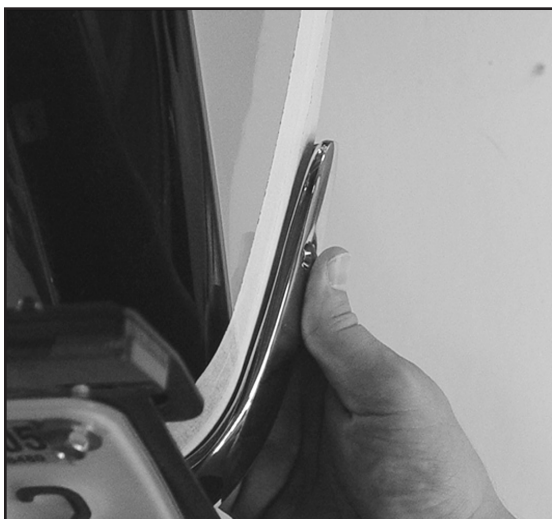

Figure 7
4. Squeeze sides of tip against fender. **Figure 7**